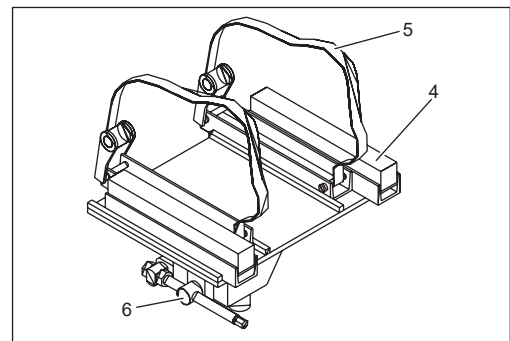

Fig. 7:
- loosen clamping screws (Fig.7/4) of the sliding pieces